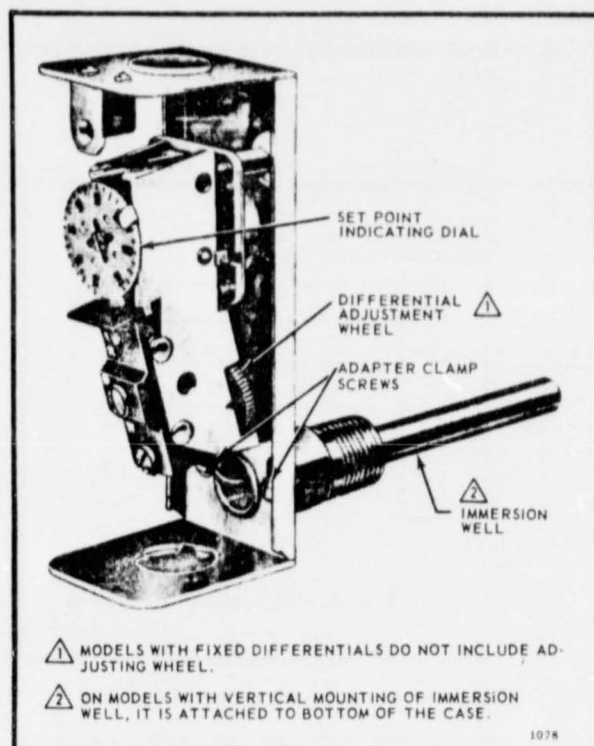

FIG. 11—INTERNAL VIEW OF L6006A.
a. Loosen screw (at top of case, above scale-setting), and remove cover. Loosen two screws that secure adapter clamp. See Fig. 11.